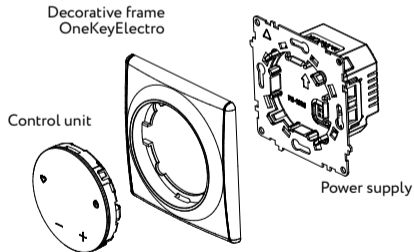

Fig. 5
6. Divide the temperature controller into blocks (Fig. 5).